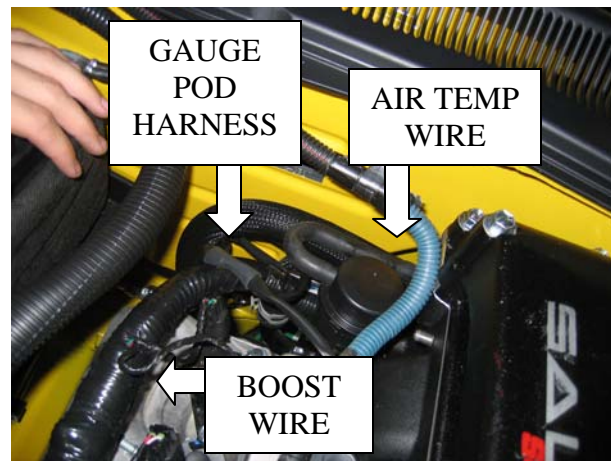

Figure 6
5. With gauge pod wiring harness in engine bay, route the boost pressure wire as shown in FIGURE 5, and the air temp wire as shown in FIGURE 6. Make sure to zip tie the harness to the silver water tube (FIGURE 5).
6. Route the air temperature wire behind the supercharger (Figure 6) to the driver's side fuel rail, as shown in FIGURE 7. Connect the wire end to the air temperature sensor as indicated in FIGURE 7.